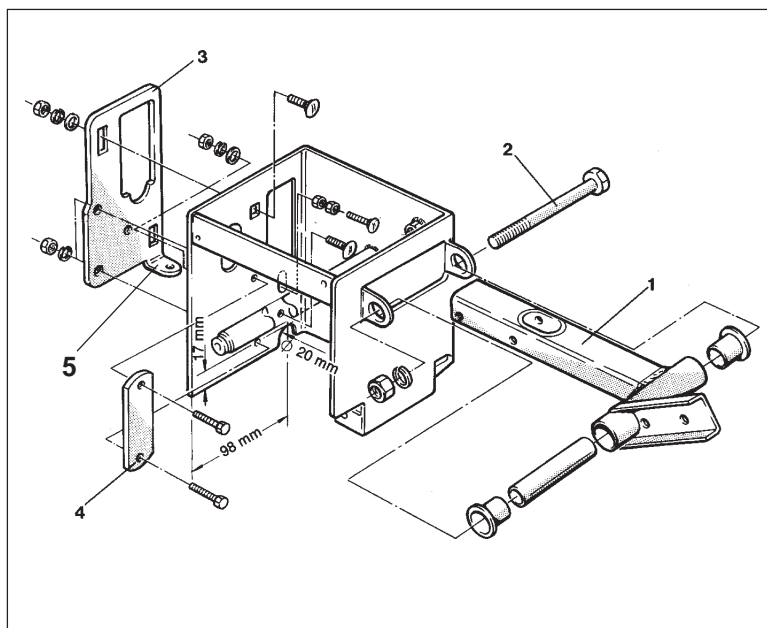

Fig. 26.59
- Remove lever (Fig. 26.59/1) after slaking the hex. bolt M 10 x 100, DIN 931 (Fig. 26.59/2)
- Mount stop plate (Fig. 26.59/3) from the outside to the switch box according to the drawing in Fig. 26.59.
- Grind gap for the lug (Fig. 26.59/5) into the wall of the switch box according to the drawing in Fig. 26.59.
- The flat iron (Fig. 26.59/4) is used for mounting the fixing parts of the hydraulics and it should be bolted to these parts later on.